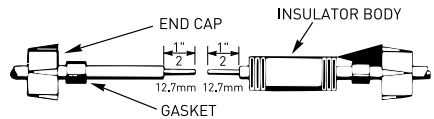

Figure 8
- Unscrew plastic caps from insulators. Place a cap and a neoprene gasket sleeve on each wire end to be spliced (see Figure 8).
- Slide insulator body onto one wire end (Figure 8).